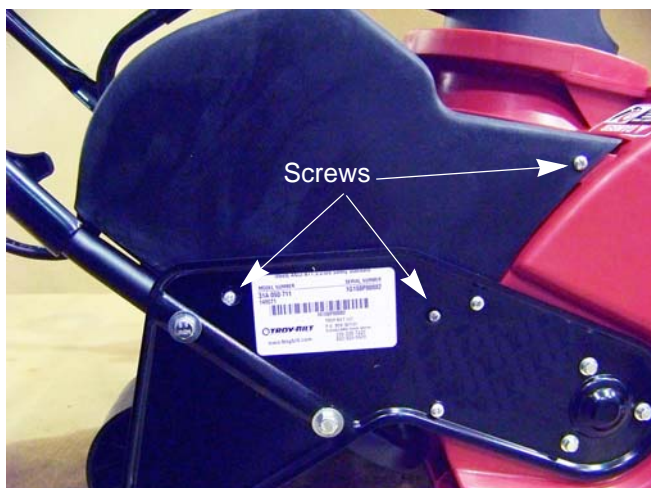

Figure 2.22
8. Remove the three screws that hold the right side of the motor cover to the auger housing using a #2 phil-lips screw driver. See Figure 2.22.